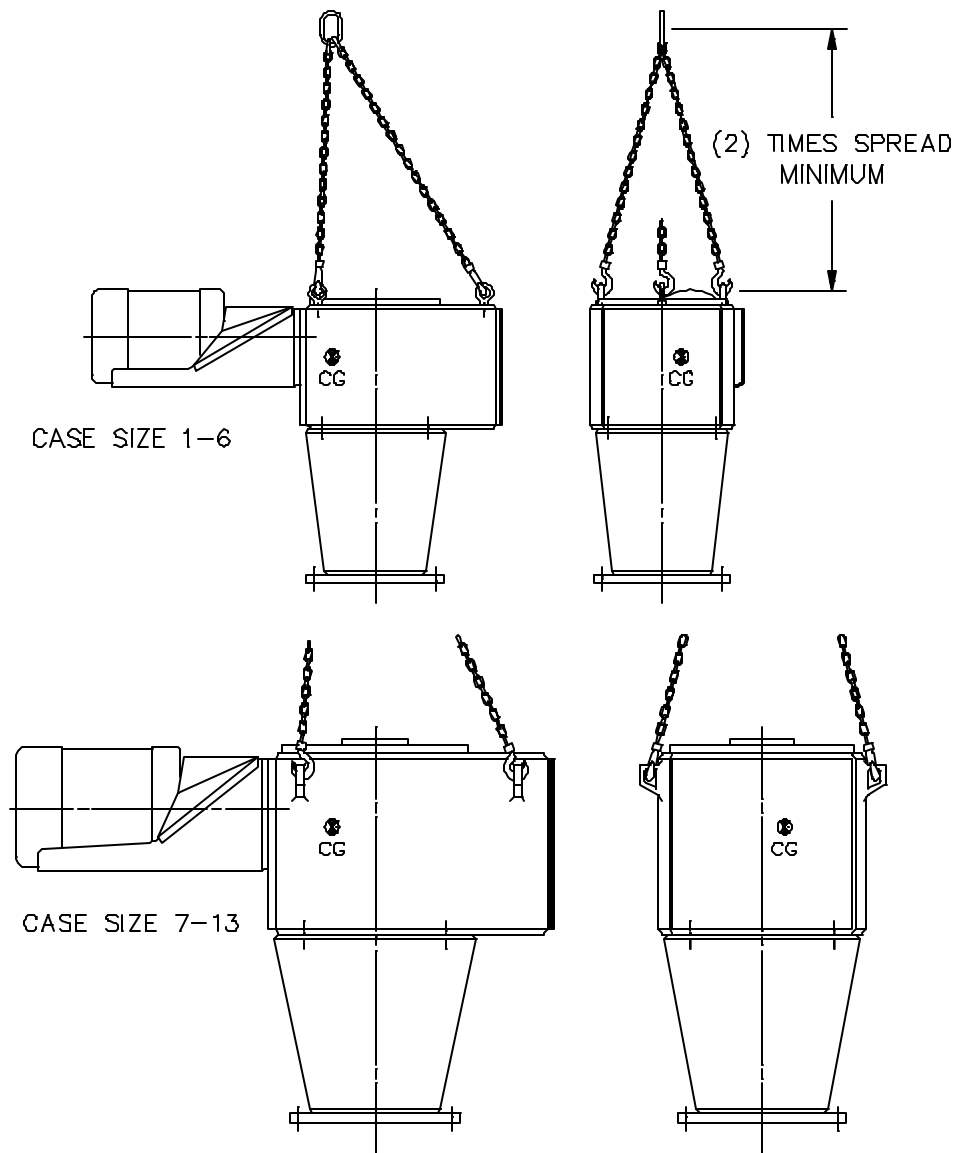

Figure 4: Agitator Lifting System
2. Remove all shipping restraints. A hoist or crane system for the lifting of the agitator parts must be available. Refer to *Figure 4, page 15* for lifting. The approximate net weight of the unit is shown on the unit assembly drawing.